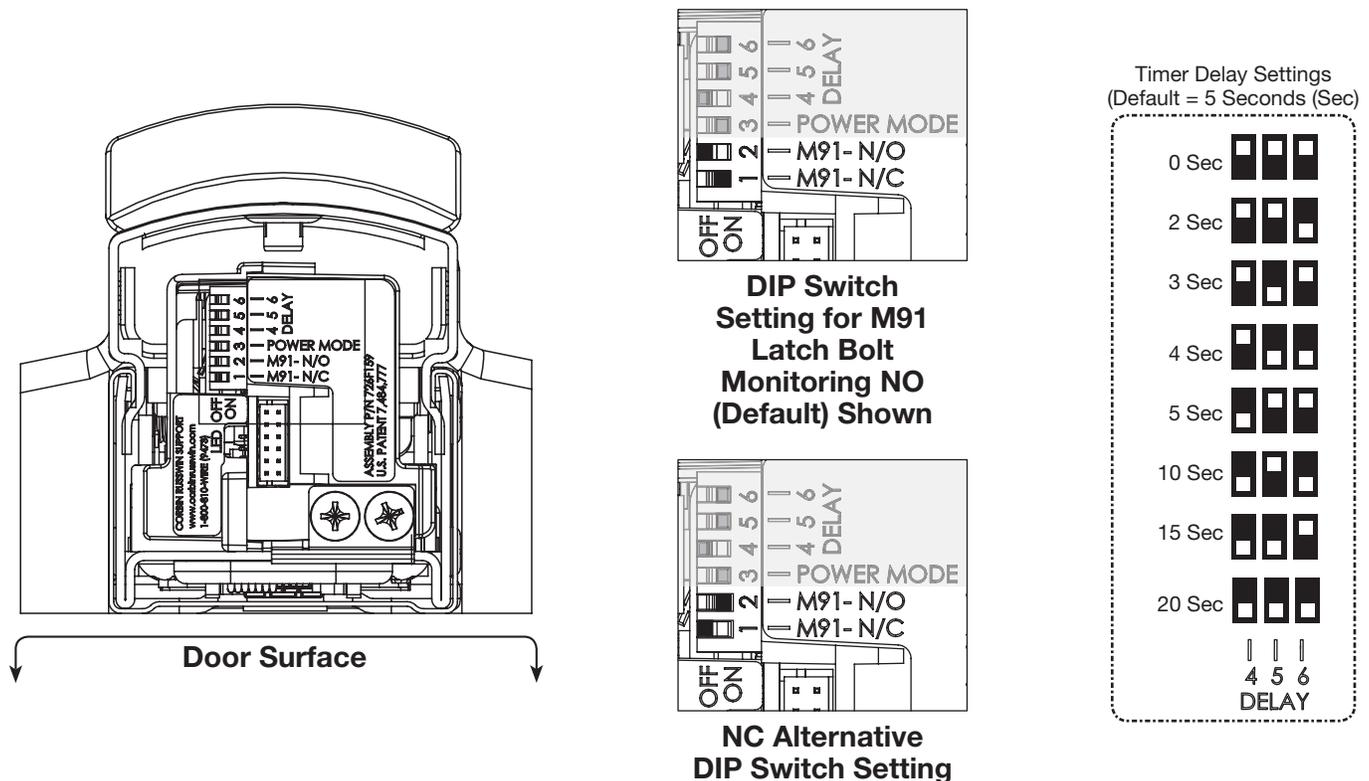

Figure 19 – DIP Switch Settings
- Refer to settings in **Figure 19** for DIP Switch timer delay settings.
<p>M91 switch wiring: The design requires normally open functionality and the circuit is normally closed (or vice versa):</p> <ul style="list-style-type: none"> • There is only a two-wire input for the M91 circuit. Normally open or normally closed configuration is set by toggling the DIP switches on the controller racket to the required position (Figure 19).